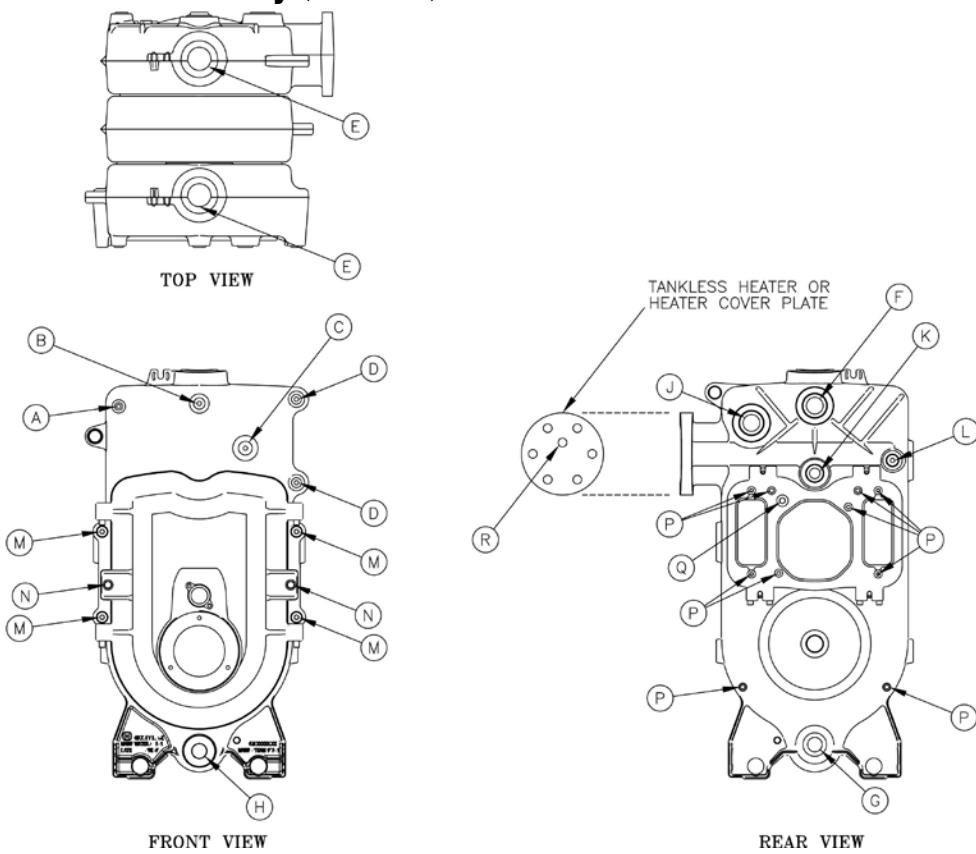

Figure 7: Purpose of Tappings and Bosses
Refer to Table 3 "Purpose of Tappings and Bosses" and Figure 7.
See also Figure 7 "Purpose of Tappings & Bosses".
3. Locate rear panel two lower attachment bosses on rear section. See Figure 7 "Purpose of Tappings & Bosses".
3. Review and locate pressure limit tapping on front section. See Table 3 " Purpose of Tappings & Bosses" and Figure 7.
2. Install the probe into the appropriate front section tapping. See Figure 7 "Purpose of Tappings & Bosses".
2. Install the gauge glass using the two 1/2" NPT tappings to the right of the probe LWCO. See Figure 7 "Purpose of Tappings & Bosses".
3. Thread the pressure gauge into 1/4" NPT tapping of the front section. See Figure 7 "Purpose of Tappings & Bosses". Tighten with wrench applied to the square shank of the gauge.